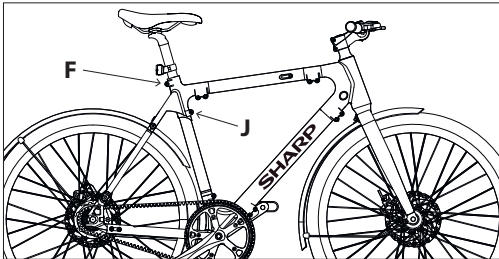

Figure 3-1
- Loosen the bolts **F** and **J** in a counterclockwise direction with a 5 mm Allen key, insert the seat post in frame, as shown in **Figure 3-1**.